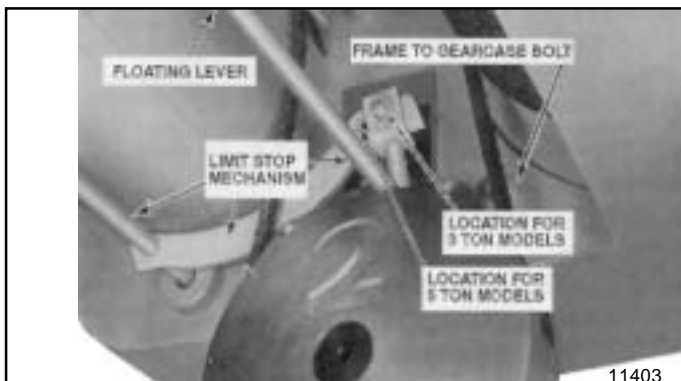

Figure 2-2. Limit Stop Mechanism Being Tripped By Lower Block.
(1) A block operated upper limit stop (Figure 2-2) is furnished as standard equipment. This limit stop is factory set to stop lower block in its high position and guard against over-travel and possible damage to hoist. (Note mounting position of floating lever for 3 and 5 ton hoists.) No adjustment can be made. Limit switch operation should be tested when hoist is installed. Move hook to a low position by depressing push button marked á. Now depress button marked ↑ to raise hook. While hook is traveling upward, manually (or with an extension pole) raise limit stop mechanism (Figure 2-2).